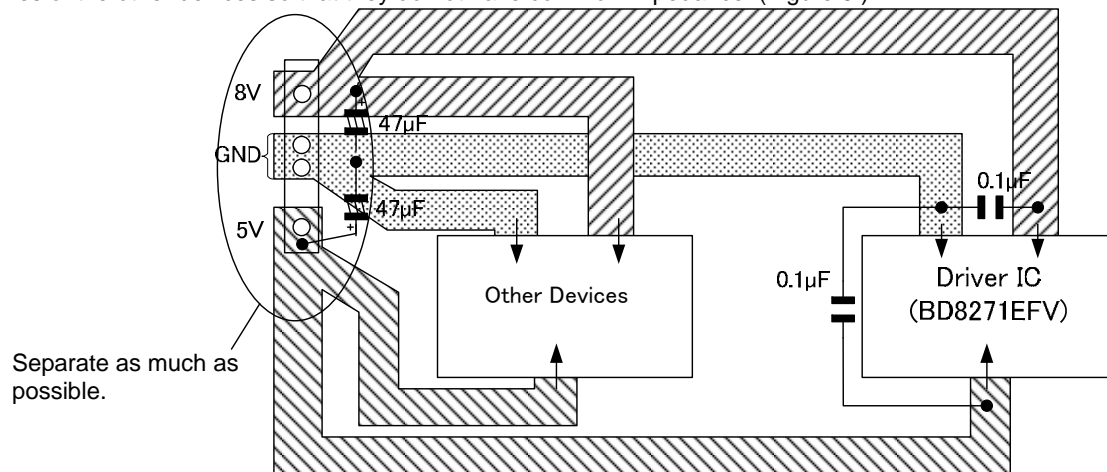

Figure 5. Pattern Example
- (1) Reduce wiring impedance on 8V system power supply (SARNF1, SARNF2, VCC), 5V system power supply (VMFC) and power GND (PGND1, PGND2) lines where high current flows. Make sure that they are separated from power supply lines of the other devices so that they do not have common impedance. (Figure 5.)